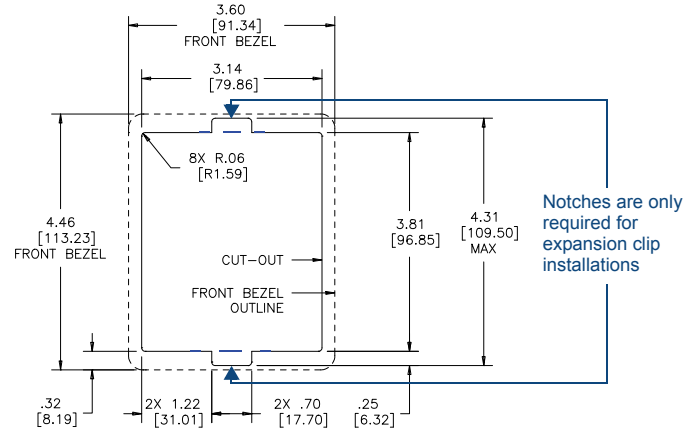

FIG. 2 Mio Modero DMS Cutout Installation Dimensions
- Cut out the surface for the Mio Modero DMS rough-in box using the dimensions shown in FIG. 2. A template is included to help you determine dimensions.